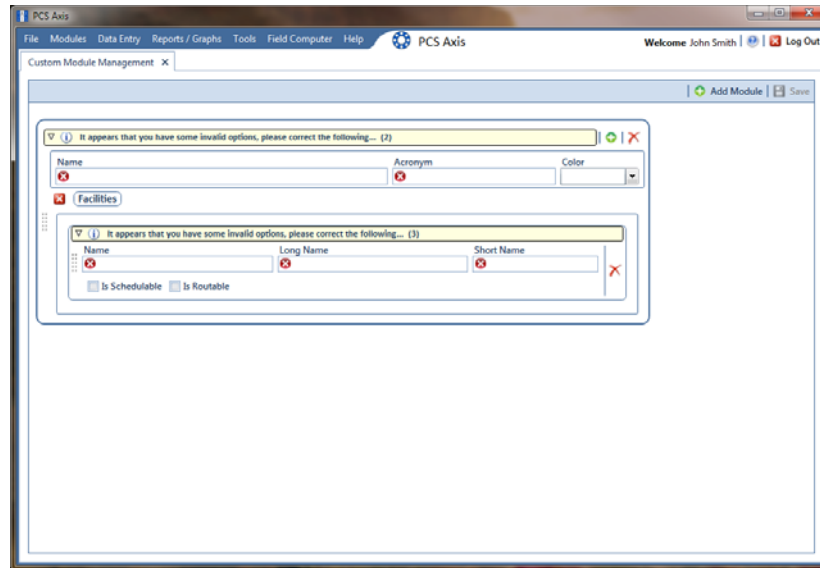

Figure 3-79. Custom Module Management
- 2 Open CMM and add a user defined module. Click **Modules > Custom Module Management >  Add Module** (Figure 3-79).